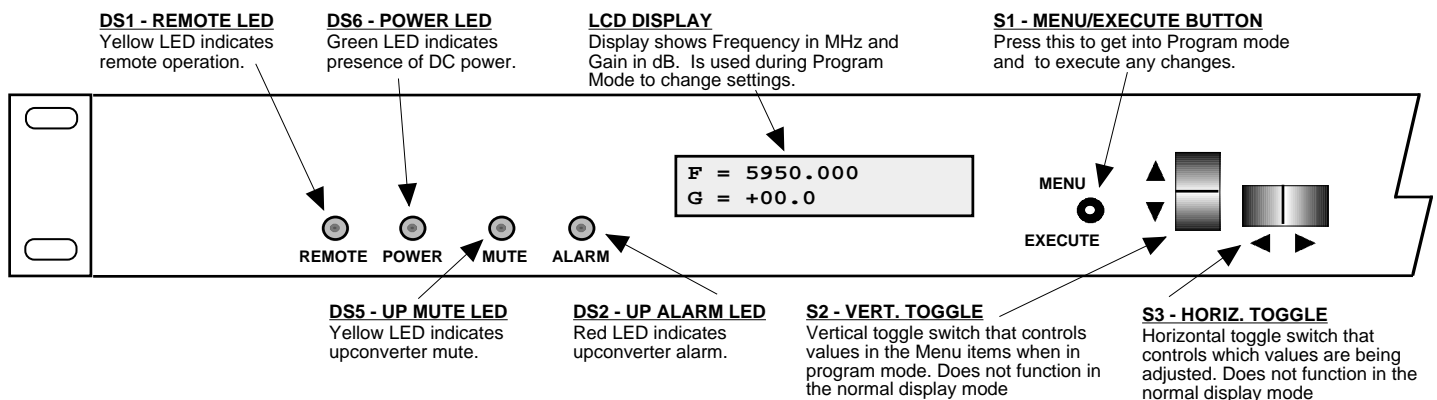

FIGURE 2.3 2015-58 Front Panel Controls and Indicators
2.3 Front Panel Controls and Indicators - Figure 2.3 shows the front panel controls and indicators.
7. Be sure DS6 (green, DC Power) is on and DS2 (red, Alarm) is off (Figure 2.3).